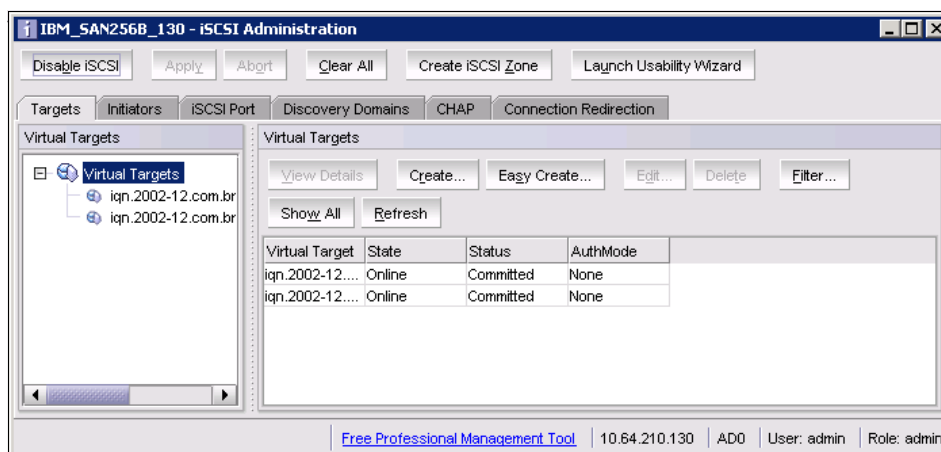

Figure 11-58 Virtual Targets online
The Virtual Targets are now online, as shown in Figure 11-58.
14. With proper access control now in place, rescan for iSCSI targets on our host by clicking **Refresh** on the Targets tab of the iSCSI Initiator Properties window (Figure 11-58). The two iSCSI targets are now visible.